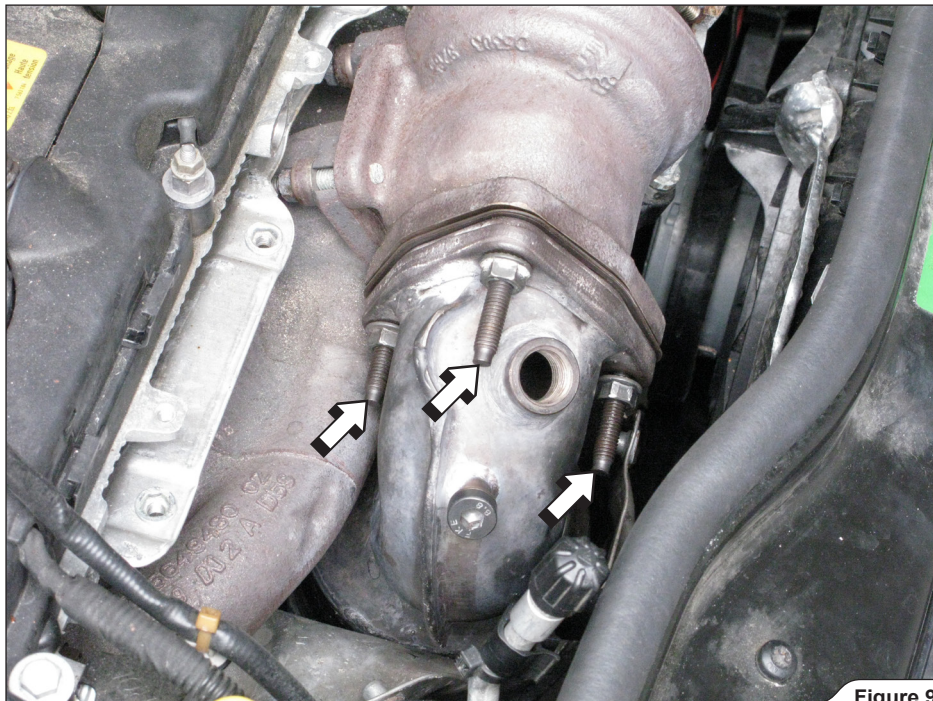

Figure 9
7. **For Optional Down Pipe only:** unscrew the marked double ended stud bolts out of the turbine casing (Figure 9).